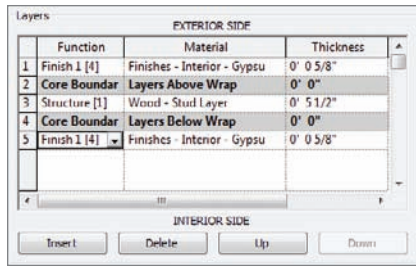

FIGURE 16.4 Adding a 5/8" gypsum layer to the interior side of the wall
10. Click the Down button, as shown at the bottom right of Figure 16.4. It is located below the Layers area.
15. Change Thickness to 5/8". Your Layers field should resemble Figure 16.4.